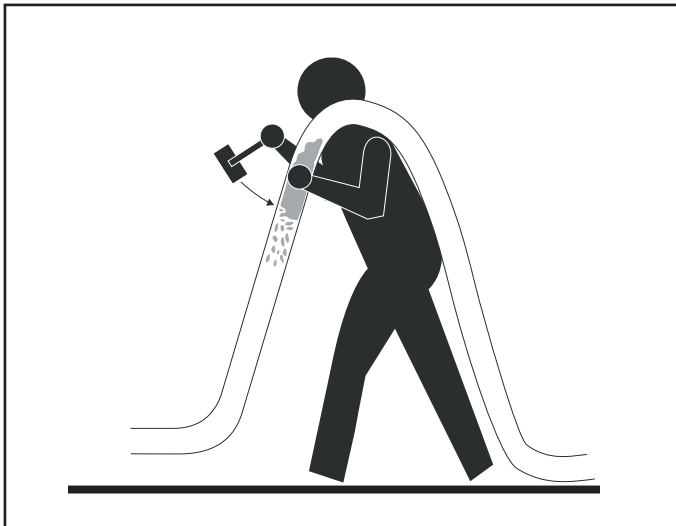

FIG.26
- Tap with a mallet in correspondence with the rigid part of the pipe to break the obstruction (FIG.26)